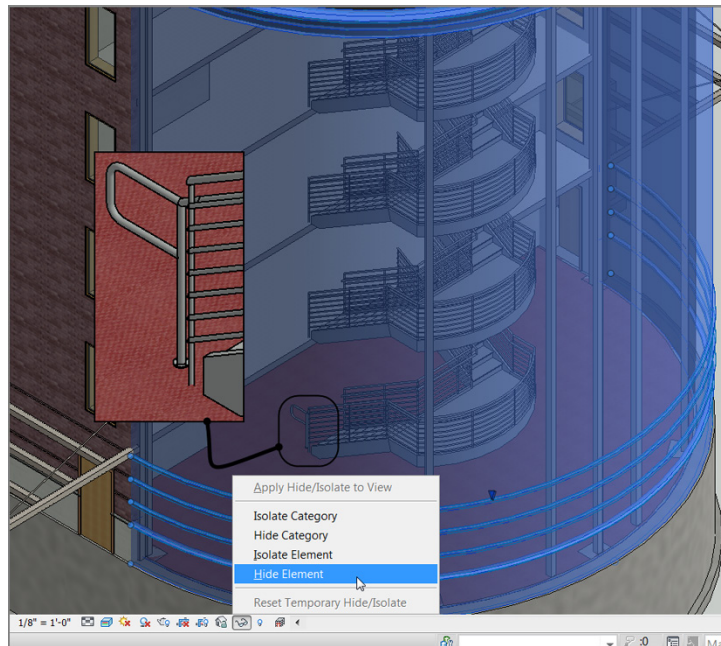

FIGURE 10.20: Check out the railing in 3D to ensure proper alignment.
7. Go to the default 3D view to make sure the railings align (see Figure 10.20).
9. On the View Control bar, click the Temporary Hide/Isolate Element button, as shown in Figure 10.20.
10. Select Hide Element (see Figure 10.20).